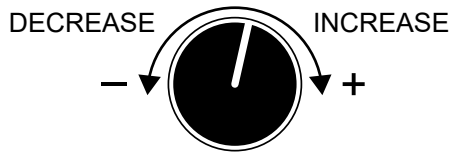

Figure 48. Voltage Regulator
5. If the voltage is not within the specified tolerance, use the voltage regulator (Figure 48) to increase or decrease the desired voltage.